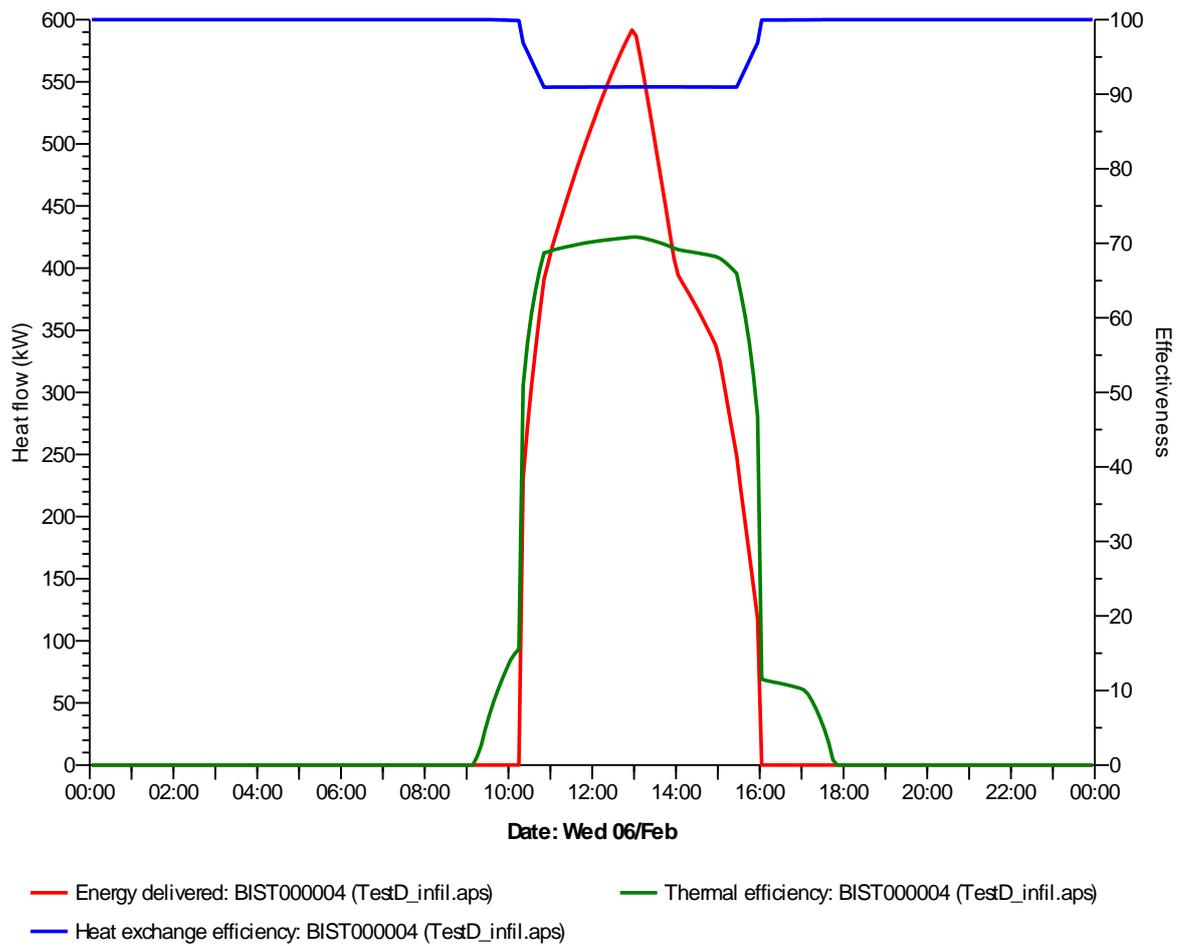

Fig. 25: Heat exchange efficiency, thermal efficiency and energy delivered as a function of time for the same data and day displayed in Fig. 24.
where \dot{m} is the mass flow rate (kg/s), c_p is the heat capacity of air (J/kg/K) and I_{abs} is the absorbed solar irradiance (W). This parameter is zero when no solar radiation is impinging on the collector plate, increases slightly for passive mode and increases significantly for active mode. Efficiencies during active mode will be approximately 50 – 70%, but higher instantaneous efficiencies can be attained depending on the weather conditions and the TSC controls. Both the heat exchange efficiency and thermal efficiency are plotted in Fig. 25.
Energy delivered is also plotted on Fig. 25. Energy delivered is only calculated if the TSC is operating in active mode. This explains the non-zero thermal efficiency at 09:30 in Fig. 25 whilst the energy delivered at that time is zero. The energy delivered is the only parameter with this constraint and is purposefully set in order to allow annual yields to be calculated for the TSC. Yields can be determined by clicking the “Sigma” icon in the VistaPro module toolbar when the energy delivered parameter is selected. Yields are an important indicator for the performance of a TSC because they directly quantify the amount of renewable heat brought into the building as preheated air through the TSC system. An example table of yields is given in Tab. 1 below.